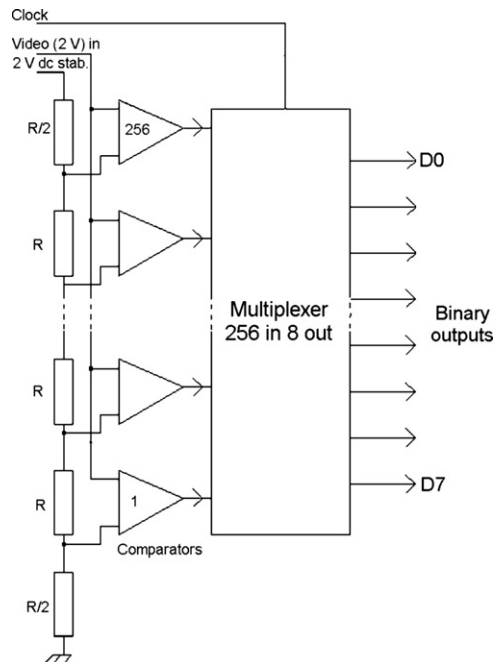

Figure 16.1:
Conversion and sampling are done by an integrated circuit (IC) flash converter. The principle is illustrated in Figure 16.1. A stabilized 2 V supply feeds a chain of 256 (IC) resistors. Each point where two resistors connect is fed to the input of a comparator, for which the other signal input is the analog video signal, set to a maximum amplitude of 2 V. A clock pulse is used to enable the comparators, so that sampling takes place when the clock pulse is high. When the